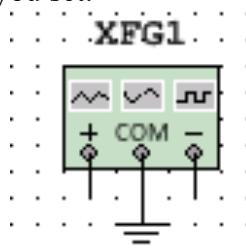

Figure 12. Wiring 3.
- The next step is to ground the COM pin (Figure 12). Then you can use “+” to output the waveform as you set.